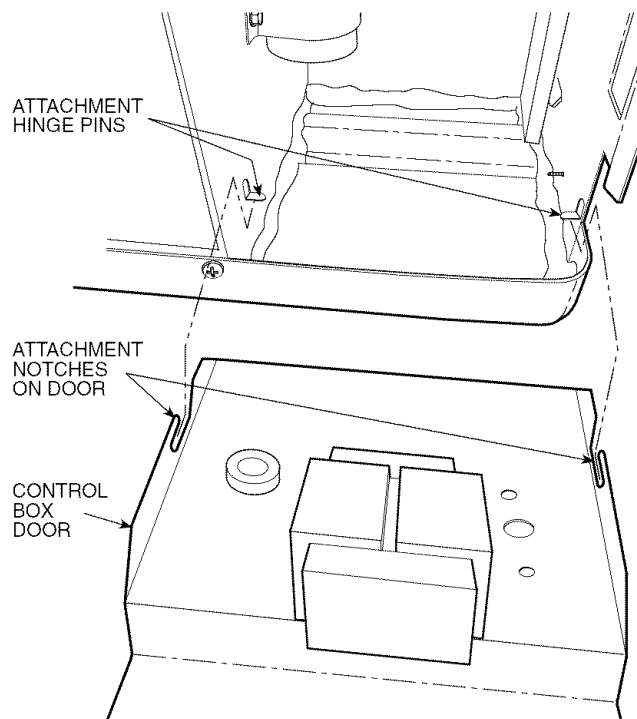

Fig. 5 — Attaching Control Door to PTAC Unit
4. Attach the new control box door by sliding it onto the control box hinge pins. See Fig. 5.
8. Attach the new control box door by sliding it onto the control box hinge pins. See Fig. 5.
1. Remove the yellow wire from terminal 1 on indoor thermostat (IT).
5. Attach the new control box door by sliding it onto the control box hinge pins. See Fig. 5.